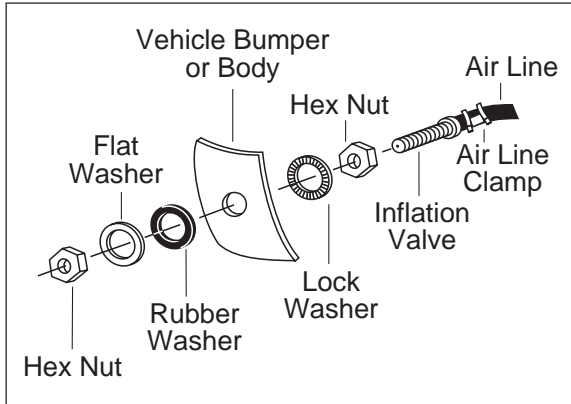

Figure 5
9. Drill $\frac{5}{16}$ " hole for inflation valve and mount as in illustration (Figure 5). Rubber washer is for outside weather seal.
7. Drill $\frac{5}{16}$ " hole for inflating valves and mount as illustrated. Rubber washer is for outside weather seal (Figure 5).
8. It may be necessary to maintain different pressures on each side of the vehicle. Loads such as water, fuel, and appliances will cause the vehicle to be heavier on one side (fig. 5). As much as a 50 PSI difference is not uncommon.